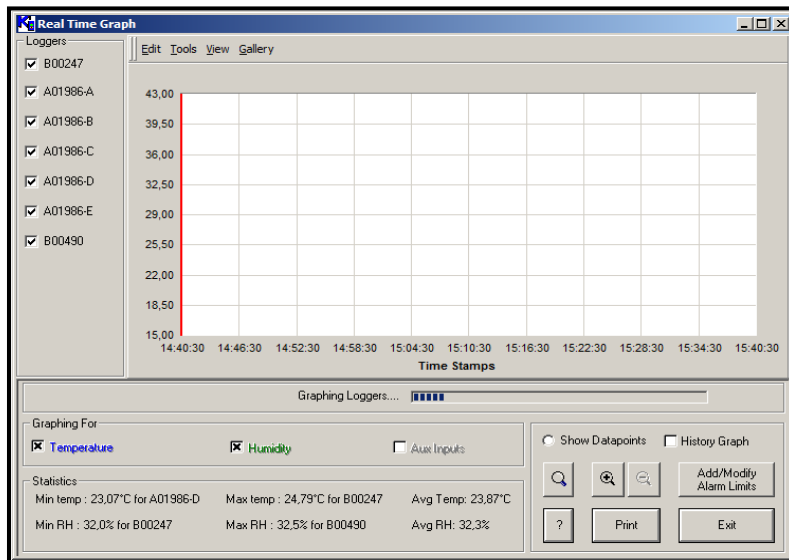

Figure 21: Real-Time Graph Screen
- To view real-time data from one or more Loggers in graph format, highlight one or more Loggers in the list (use Ctrl + click to select two or more Loggers) and click on the Graph Sensors button or click **File>Graph Sensors** from the File menu. A blank graph screen appears, similar to Figure 21 below.